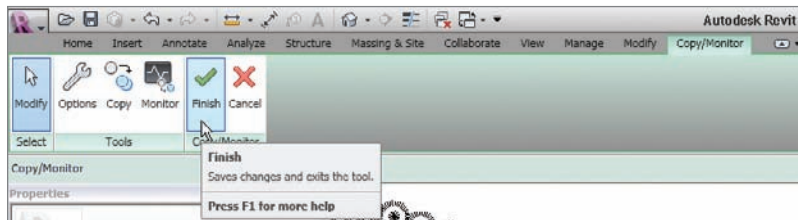

FIGURE 20.11 Clicking Finish
4. On the Copy/Monitor panel of the Copy/Monitor tab, click Finish, as shown in Figure 20.11.